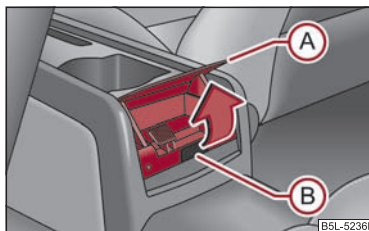

Fig. 83 Low centre console: Rear ashtray
- Grasp the ashtray cover at the lower edge (A) ⇒ fig. 83 and fold it open in the direction of arrow.